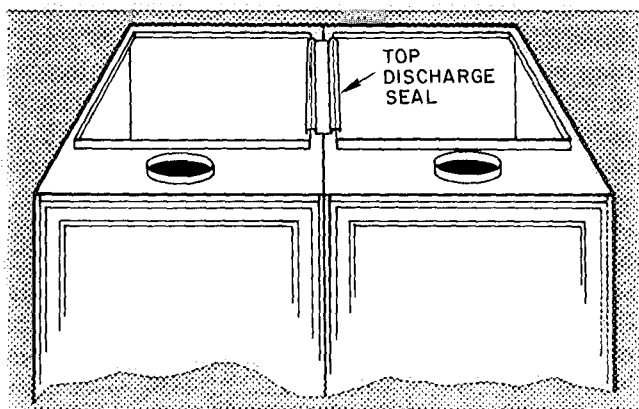

Fig. 4 — Installation of Seal
6. Install top discharge air seal as shown in Fig. 4. No screws are required.